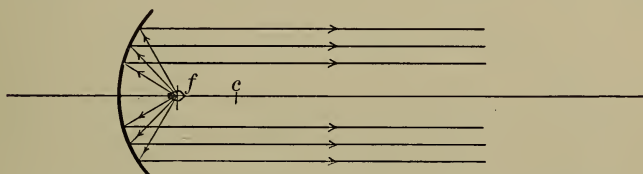

FIGURE 79.—A CONCAVE MIRROR USED AS A REFLECTOR.
2. *Concave Mirror.* The most general use of the concave mirror is that of a reflector. Since all parallel rays come together at the principal focus, it is seen that the rays from a source of light placed at the principal focus will be sent out as parallel rays. (Figure 79.)